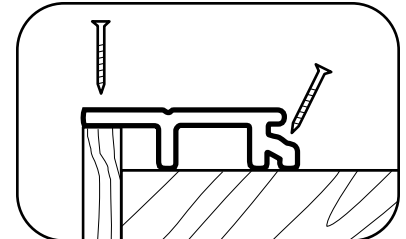

Fig. 21
- Cut the "tongue"-side leg off the first stair tread plank. Place the first stair tread edge (the side from which the "tongue"-side leg had been cut) on top of the Fascia Board and fasten into place, using 2-1/2" stainless steel or galvanized deck screws through the stair plank and into the Fascia Board (line up one screw with each stair stringer) (Fig. 21).